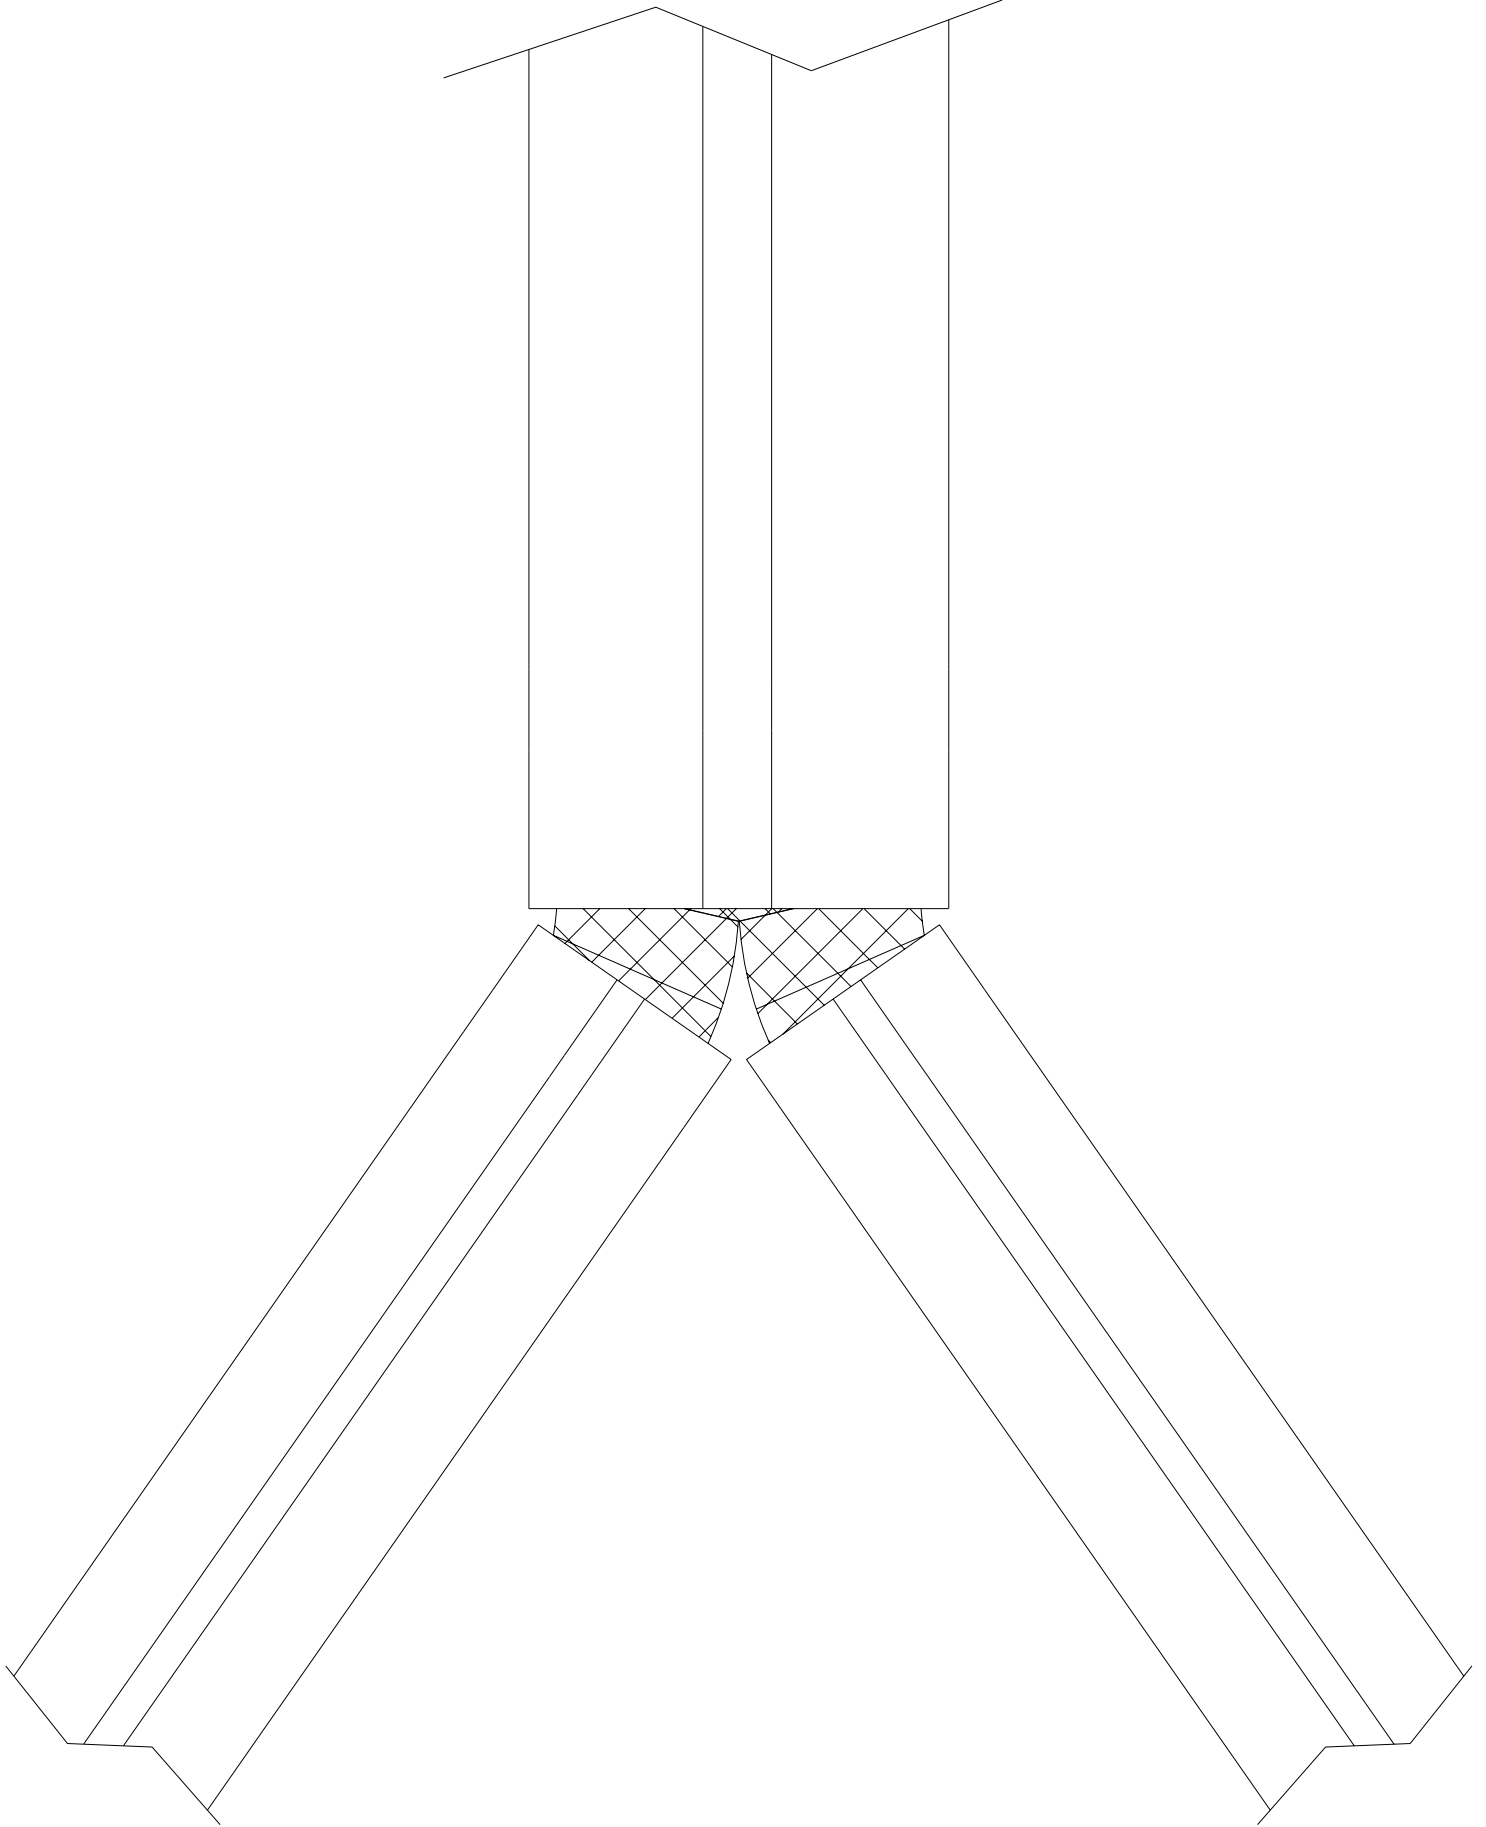

FIGURE 14. SHIELDED JACKET POSITION
- Step 2. Install the individual pieces of Zippertubing shielded jacket material over each leg of the tape wrapped harness. You may wish to splice the ground braid wires (if applicable) from each leg of the shielded jackets together as previously described. Position all pieces as close to the crotch area as possible. (Figure 14)